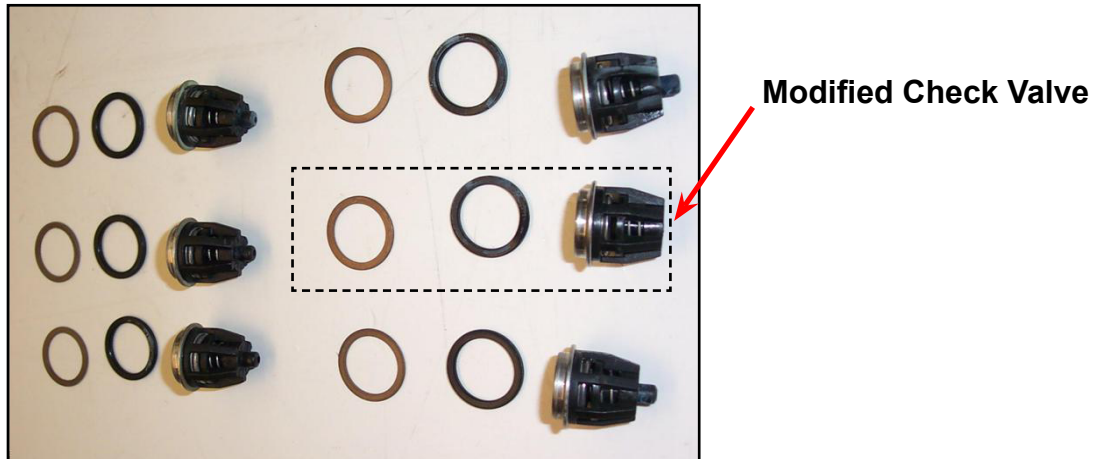

Figure 5. Replace Center Inlet Check Valve With Modified Check Valve
7. Replace the center inlet check valve with a modified check valve (Figure 5).